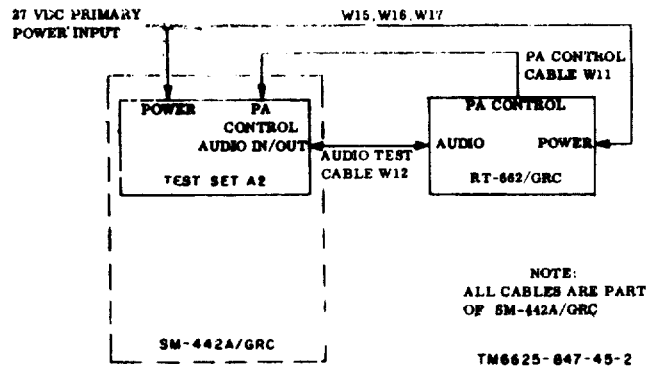

Figure 1-3. RT-662/GRC unit system testing, block diagram.
b. Using the SM-442A/GRC to test the RT-662/GRC as a separate unit requires audio test cable W12 and PA CONTROL cable W11 (fig. 1-3). The test cables are connected: between the RT-662/GRC and the test set. The AM-3349/GRC-106 can also be checked as a separate unit.